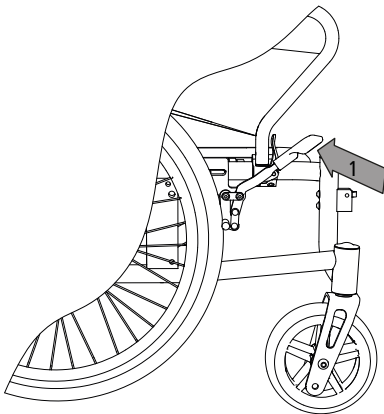

Fig. 20
2. Release the parking brake by pulling back the lever (1, Fig. 20).